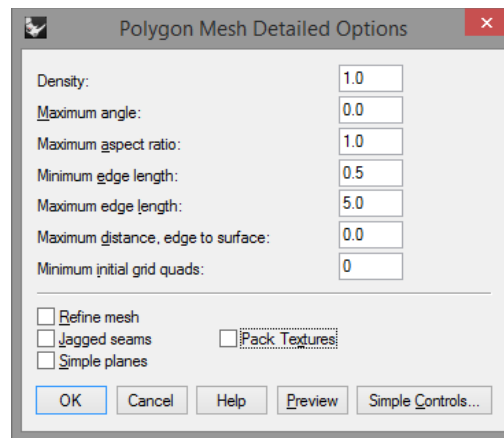

Figure 96: Detailed mesh control options.
1. To creating a surface mesh based on the solid model, select the model and type **_Mesh** on the Rhino command line. Select the Detailed Controls and fill in the values in the dialog box as shown below in Figure 96. Move the slider to the right side of the scale and click OK to create the surface mesh.